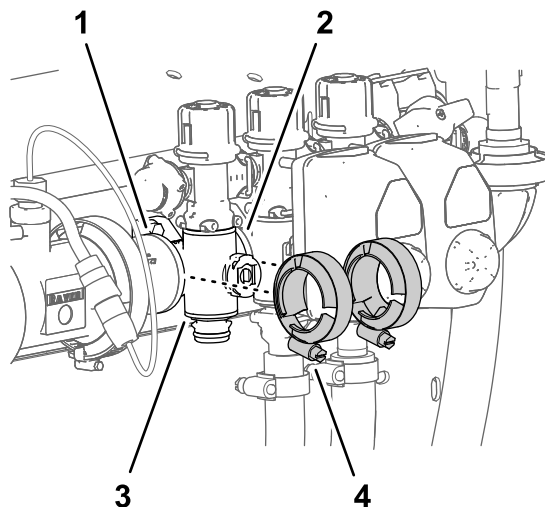

Figure 126
- Remove the 2 flange clamps that secure the section-manifold valve to the flanges of the adjacent components (Figure 126).